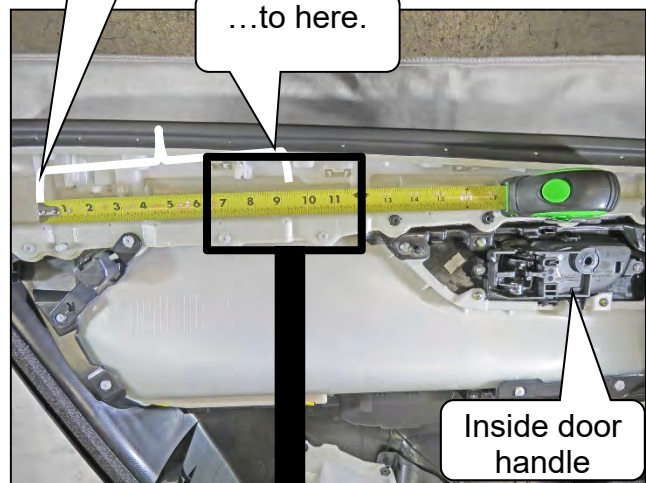

Figure 42
15. Measure 9 ¼ inches (235 mm) towards the door handle, as shown in Figure 42.